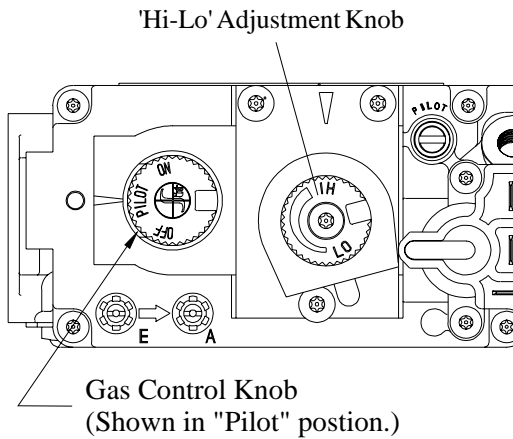

Figure 29. 'Hi-Lo' Adjustment on the H34D's gas valve.
The H34D is equipped with an adjustable burner, allowing you to raise or lower the flames. To adjust the flames, locate the black knob marked 'Hi-Lo', in the centre of the gas control valve (See Figure 29). The front burners are not adjustable.
- Have the fireplace installation inspected yearly, including a visual check of the vent system, the burner and the pilot flame. For your convenience a 1/8" manifold pressure tap is supplied on the gas valve for a test gauge connection. See Figure 29.